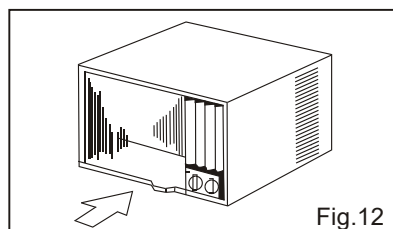

Fig.12
9. Carefully slide the unit back into the cabinet. (Fig.12)